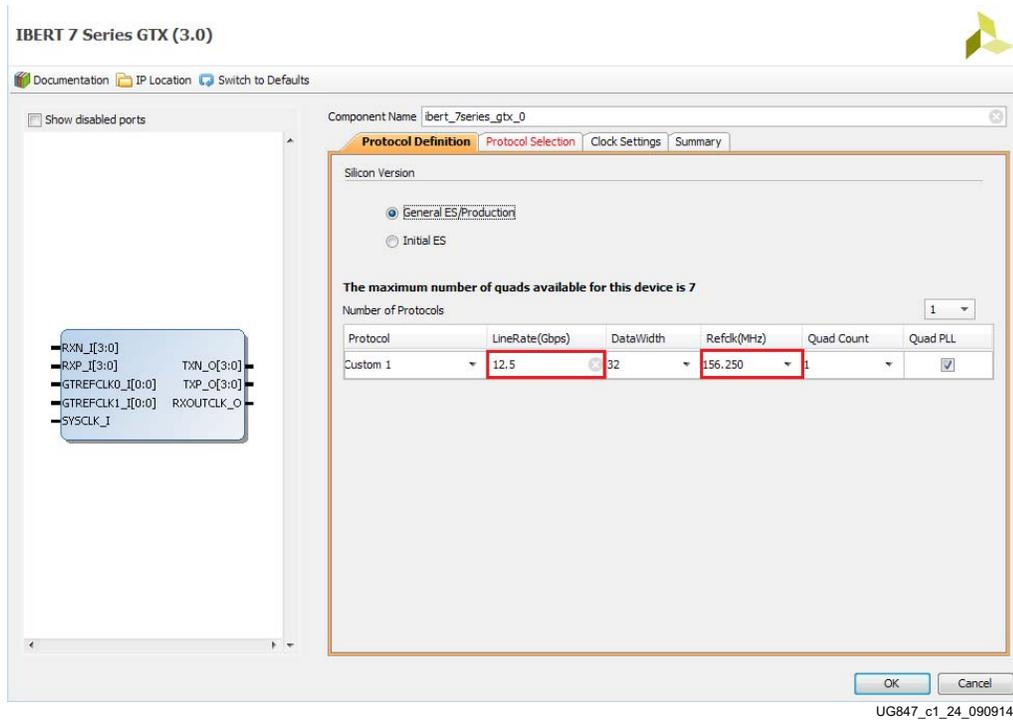

Figure 1-24: Customize IP - Protocol Definition
7. A Customize IP window opens. In the Protocol Definition tab, change **LineRate (Gbps)** to **12.5**, then use the drop-down to change the **Refclk (MHz)** to **156.250**. Keep defaults for other fields (Figure 1-24).